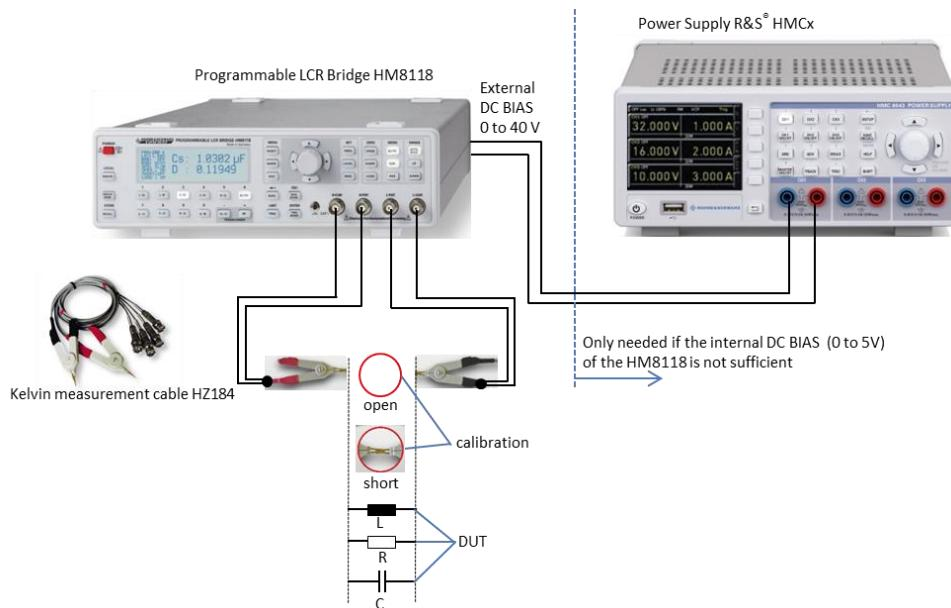

Fig. 2-1: Component measurement using the HM8118 LCR bridge.
- Connect the capacitor between the red (+) and black (-) terminals of HZ184 (Fig. 2-1). **Important: You must check the polarity on unipolar capacitors!**
- Note: Electrolytic and tantalum capacitors require a bias voltage for a correct measurement. This should be high enough that no polarity reversal occurs when an AC voltage is applied, or else it should ideally be equivalent to the DC value in the actual circuit. Press the *BIAS* key and then use the rotary knob to set the required bias voltage (pressing the *BIAS* key a second time will switch the bias voltage off again). The set DC voltage is then superimposed on the measured AC voltage. The internal bias voltage can be a maximum of 5 V and is set in 10 mV increments. If this supply voltage is not sufficient, an external power source is used to supply a DC bias voltage of up to 40 V (Fig. 2-1). The constant voltage (CST V) must be switched on for this purpose. Press the *SELECT* key and use the rotary knob to select *SETUP* in the menu. Press the rotary knob to enable *CST V* and then use the rotary knob to set *ON*. Press the *ESC* key.
- Connect the coil between the red (+) and black (-) terminals of HZ184 (Fig. 2-1).
- Connect the resistor between the red (+) and black (-) terminals of HZ184 (Fig. 2-1).